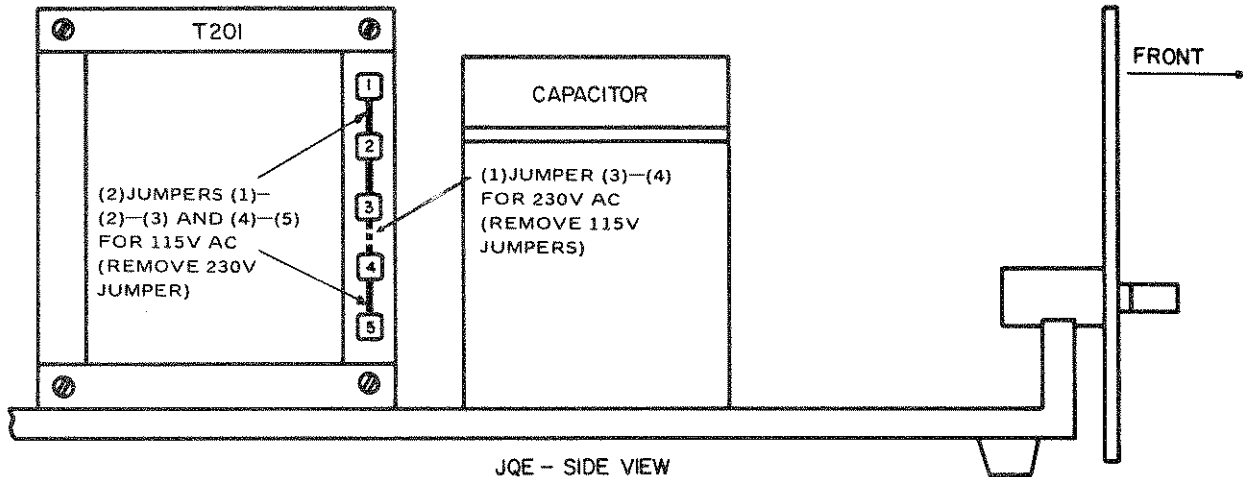

FIG. 2-2 CONVERSION FOR 230V AC NOMINAL LINE
- a) FRONT PANEL: Refer to FIG. 2-2 and TABLE 2-2.
- 2-5 This power supply is normally supplied for operation on a single phase, nominal 115V AC line. For conversion to 230V AC line operation, refer to FIG. 2-2. Remove the two wire jumpers between transformer terminals (1)–(2)–(3) and (4)–(5). Re-connect one (1) jumper between terminals (3) and (4). Do not change any other wiring on the transformer. Change main fuse value (F201) to 1/2 its former rating.